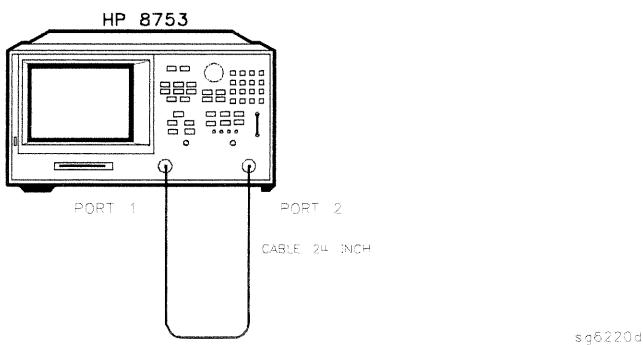

Figure 2-48. Test Port Phase Compression Test Setup
1. Connect the equipment as shown in Figure 2-48.